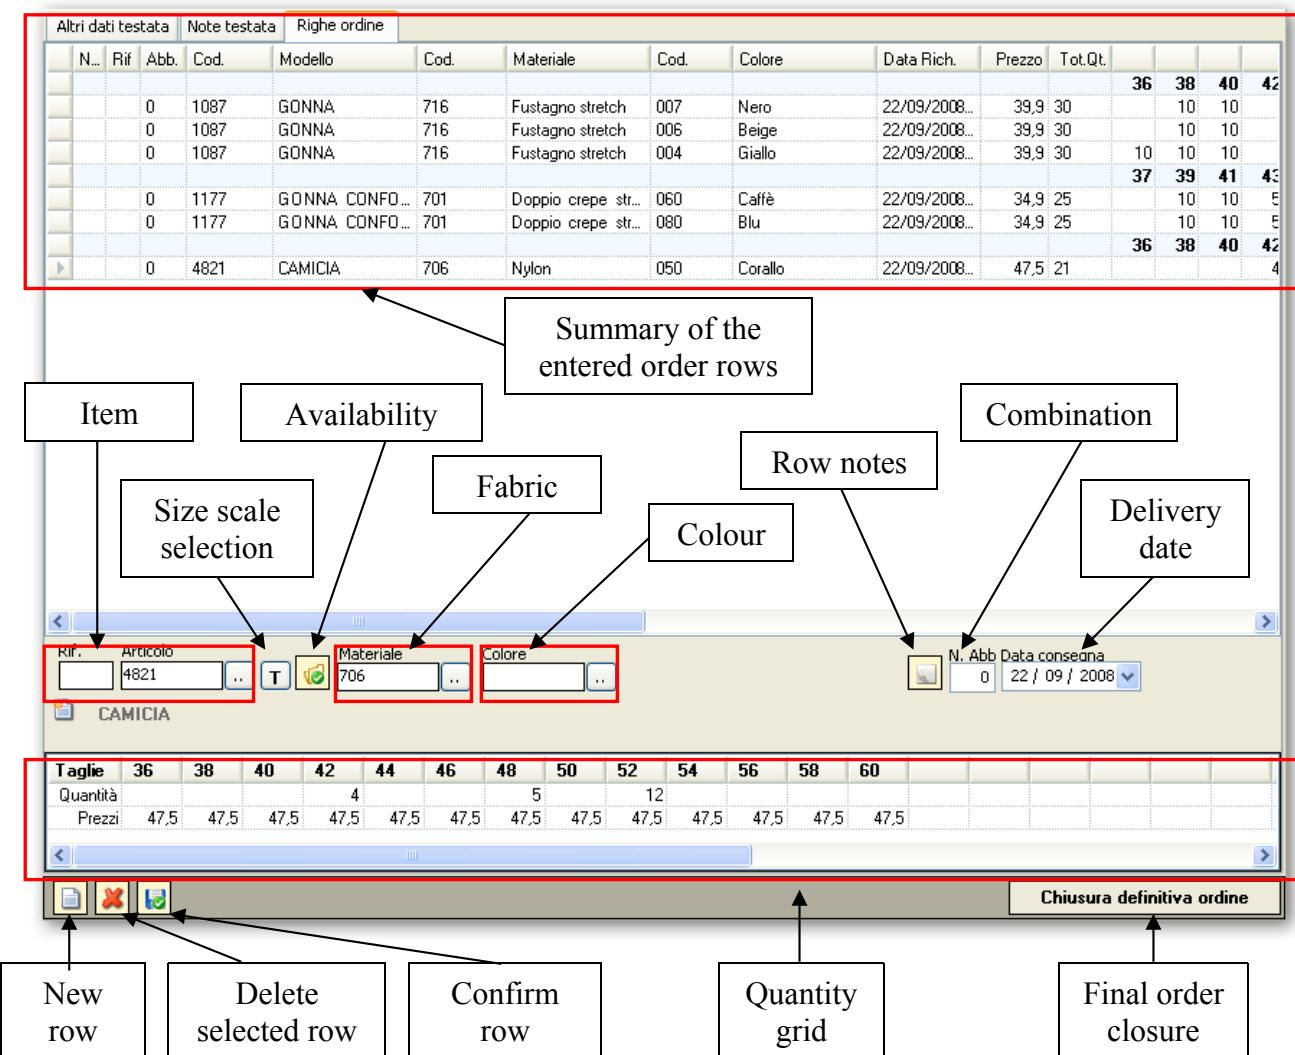

Fig. 13 - Order rows
4. **Entering the "Order rows"**: in order to enter the order rows, it is necessary to have previously set up all the mandatory fields in the "Order name" and "Other name data". Then click on the "Order rows" tab. In order to create a new order row, click on the relative bottom-left button (Fig. 13).